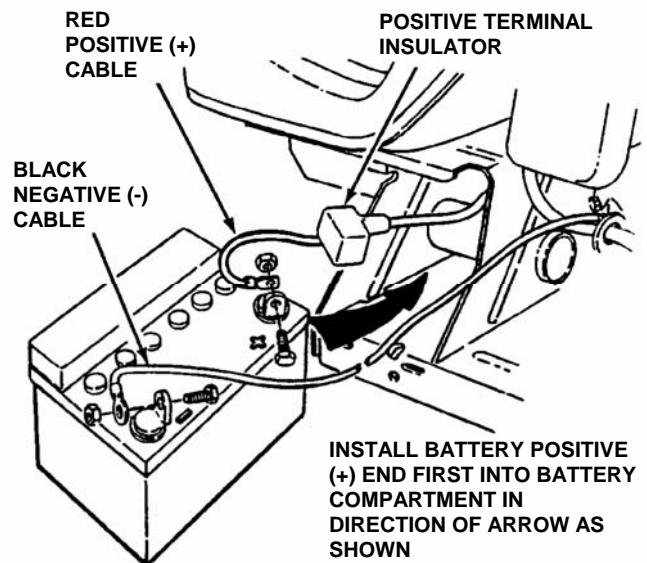

FIGURE 4.18
4. Observe and note cable positions on battery. See Figure 4.18.
Cables must be connected to battery terminals in the proper position as show in Figure 4.18. DO NOT attempt to charge battery while installed on the Rear Engine Rider. DO NOT use "BOOST" chargers on the battery.